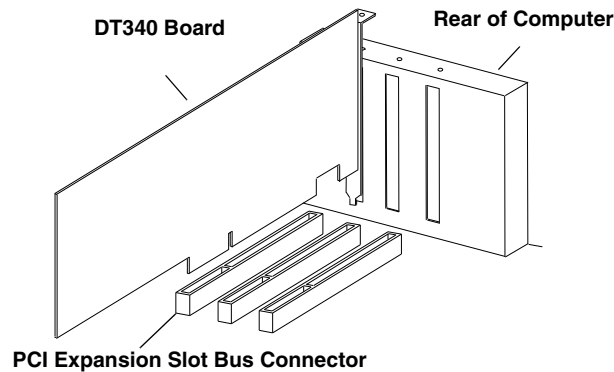

Figure 3: Inserting the DT340 Board in the Computer
4. Position the board so that the cable connectors are facing the rear of the computer, as shown in Figure 3.